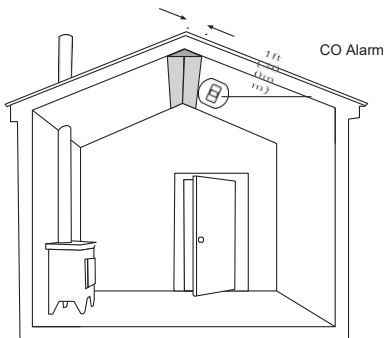

Figure 2
- In rooms with sloped ceilings and fuel burning appliances, the CO Alarm should be located at the high side of the room (see fig 2).